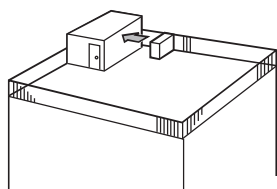

Fig. 2-4
- ① Face the air outlet towards the nearest available wall about 50 cm away from the wall. (Fig. 2-4)